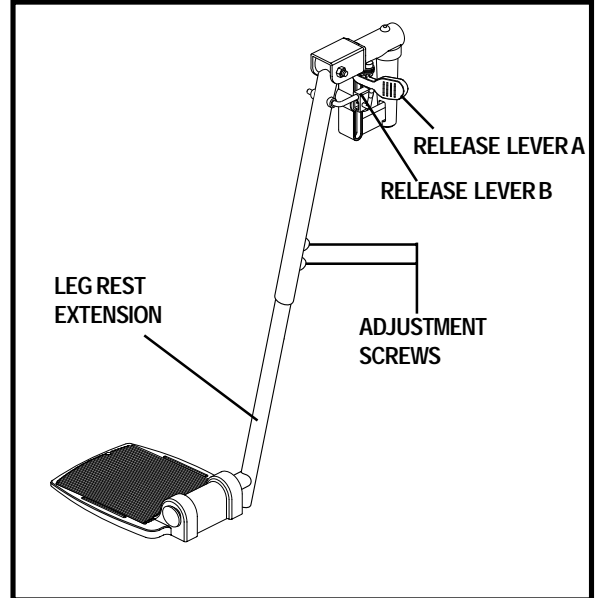

Figure 18. Elevating Leg Rests
1. Push in release lever A. See figure 18.
1. Push down release lever B. See figure 18.
1. Remove the two adjustment screws from the side of each leg rest extension. See figure 18.